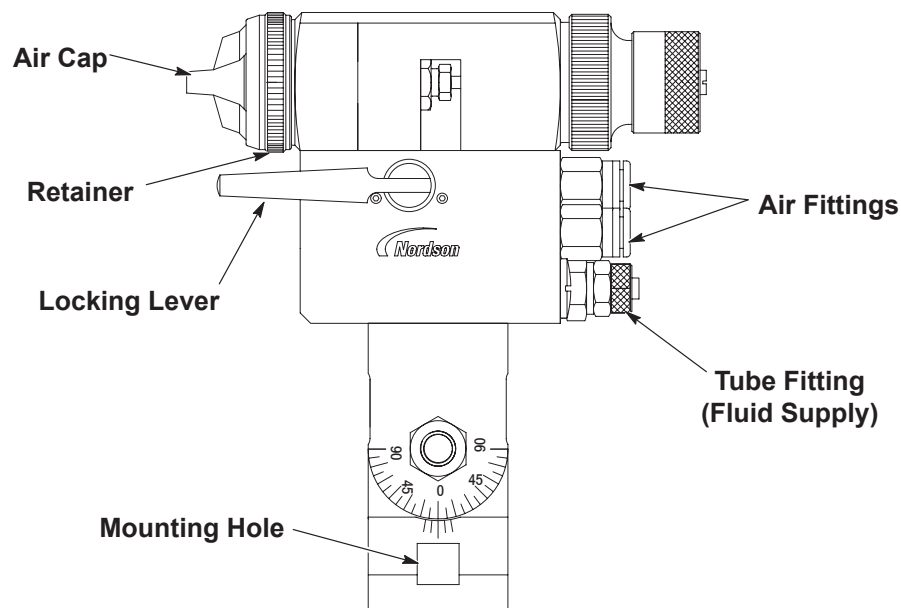

Figure 1 Trilogy LP QC Spray Gun
1. See Figure 1. Use the mounting hole to mount the spray gun as desired.
2. Connect 1/4 in. (US) or 8 mm (EU) trigger air tubing to the **red** fitting.